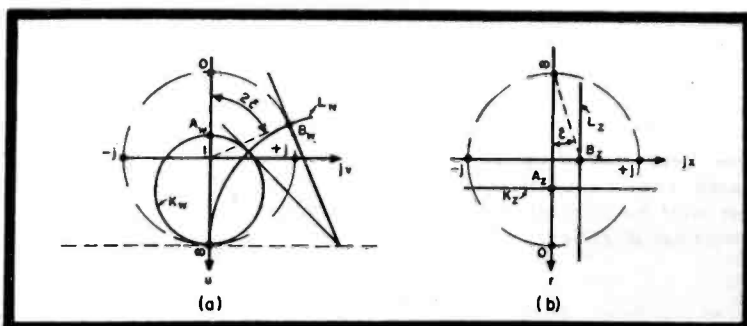

Figure 2
In Fig. 2 we have again drawn the z plane and w plane. From (2), we see that any real value of z , for instance $z = r_0$, will furnish a real value of
include a 90° angle with the real (u) axis of the w plane. Evidently, then, they have the position of the circle K_w in Figure 2, which corresponds to the straight line K_z . K_w can be defined if we find just one more point on its circumference, like the point of intersection with the real axis, A_w . In this point $z = r_0$ and the corresponding point A_w lies at $w = \frac{r_0-1}{r_0+1}$